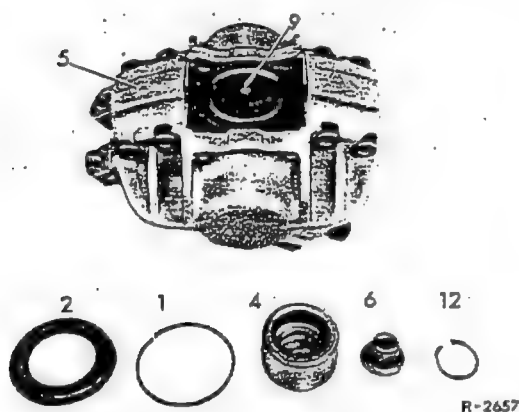

Fig. 42-12/25
3. Detach the connecting line (12) from the brake caliper.
4. Remove the clamp ring (1) and the dust cap (2) from the pressure cylinder (5) and the piston (4) (Fig. 42-12/24).
The disk wobble compensator in the piston cannot be repaired. It can only be removed from the piston to provide better access for cleaning the piston. To do this remove the circlip (12) from the piston (4) (Fig. 42-12/25).